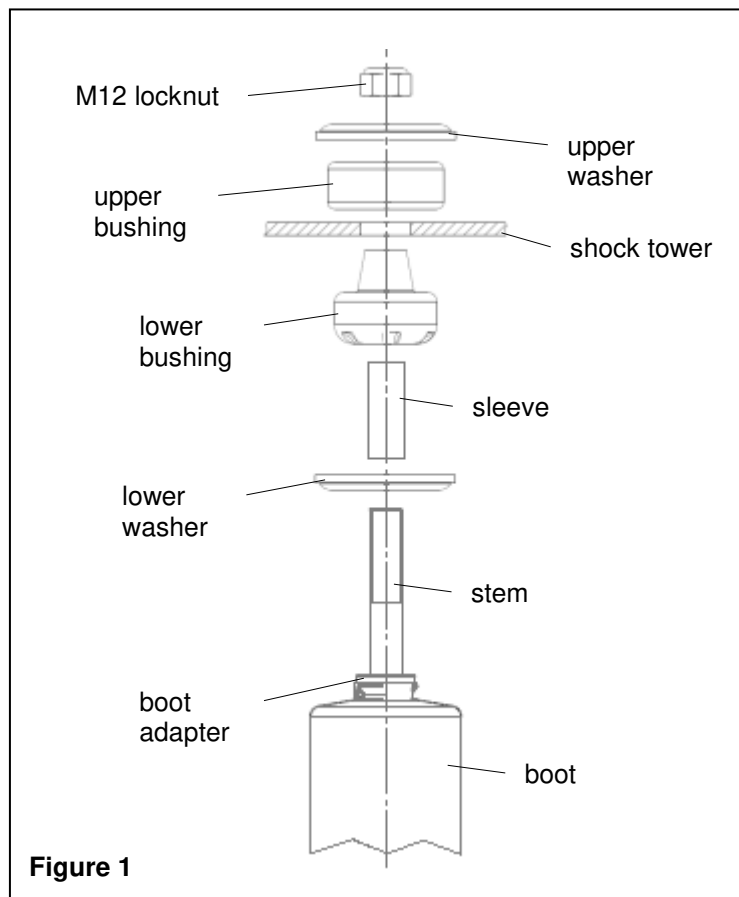

Figure 1
- C. Using the supplied stem mounting hardware, install the lower washer, sleeve, and bushing on the shock stem. Then insert the stem into the original location in the shock tower. Carefully compress the shock by hand and install the lower mount of the Bilstein Shock Absorber in the original location. Please refer to Figure 1 for the proper order of installation of the stem hardware.